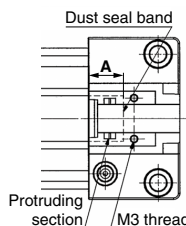

Fig. 2
- a. Install the dust seal band (Table 1), which has been coated with grease on both sides, so that its end surface is in the middle between the M3 thread on the top surface of the head cover and the protruding section. (Recommended position: the A dimension) (Refer to Fig. 2.)